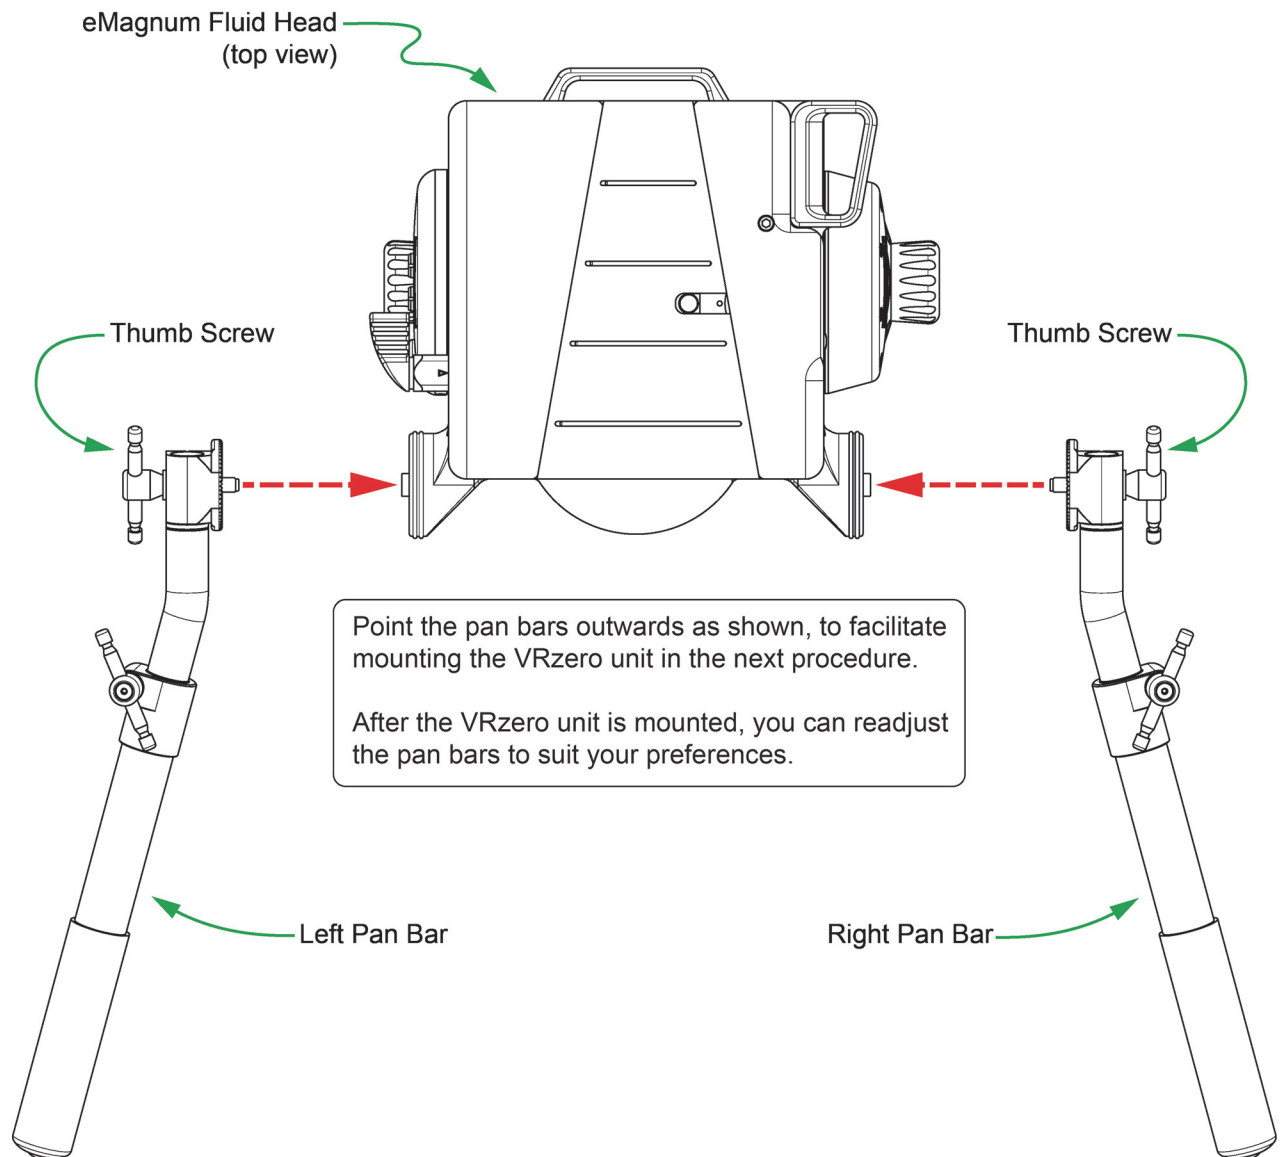

Figure 3.2 - Attaching the Pan Bars to the eMagnum Fluid Head (view from above)
1. Unpack the two pan bars (right and left) and determine which is which (see **Figure 3.2**).
- a. Align the pan bar so it extends horizontally from the eMagnum fluid head and points outwards (see **Figure 3.2**).